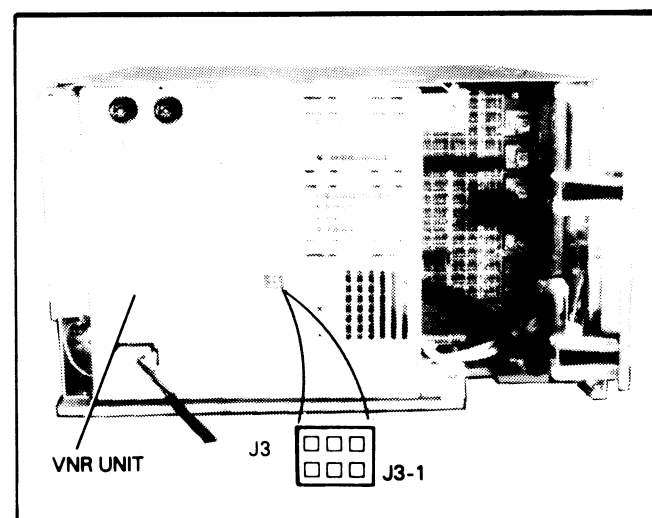

Figure 6.9 Jack 3
- b. Check the BAT+ voltage at Jack J3-1 (see Figure 6.9).
- If BAT+ is NOT greater than 12V, then measure the voltage DIFFERENCE between J3-5 and J3-6 (see Figure 6.9). If it is greater than one volt, replace the battery; otherwise, replace the VNR unit.